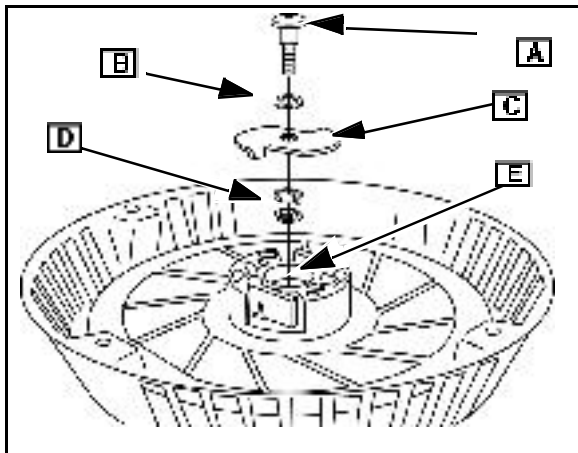

Fig. 11
7. Remove retainer screw (A), small washer (B), retainer (C), brake spring (D), and large washer (E) Fig. 11).